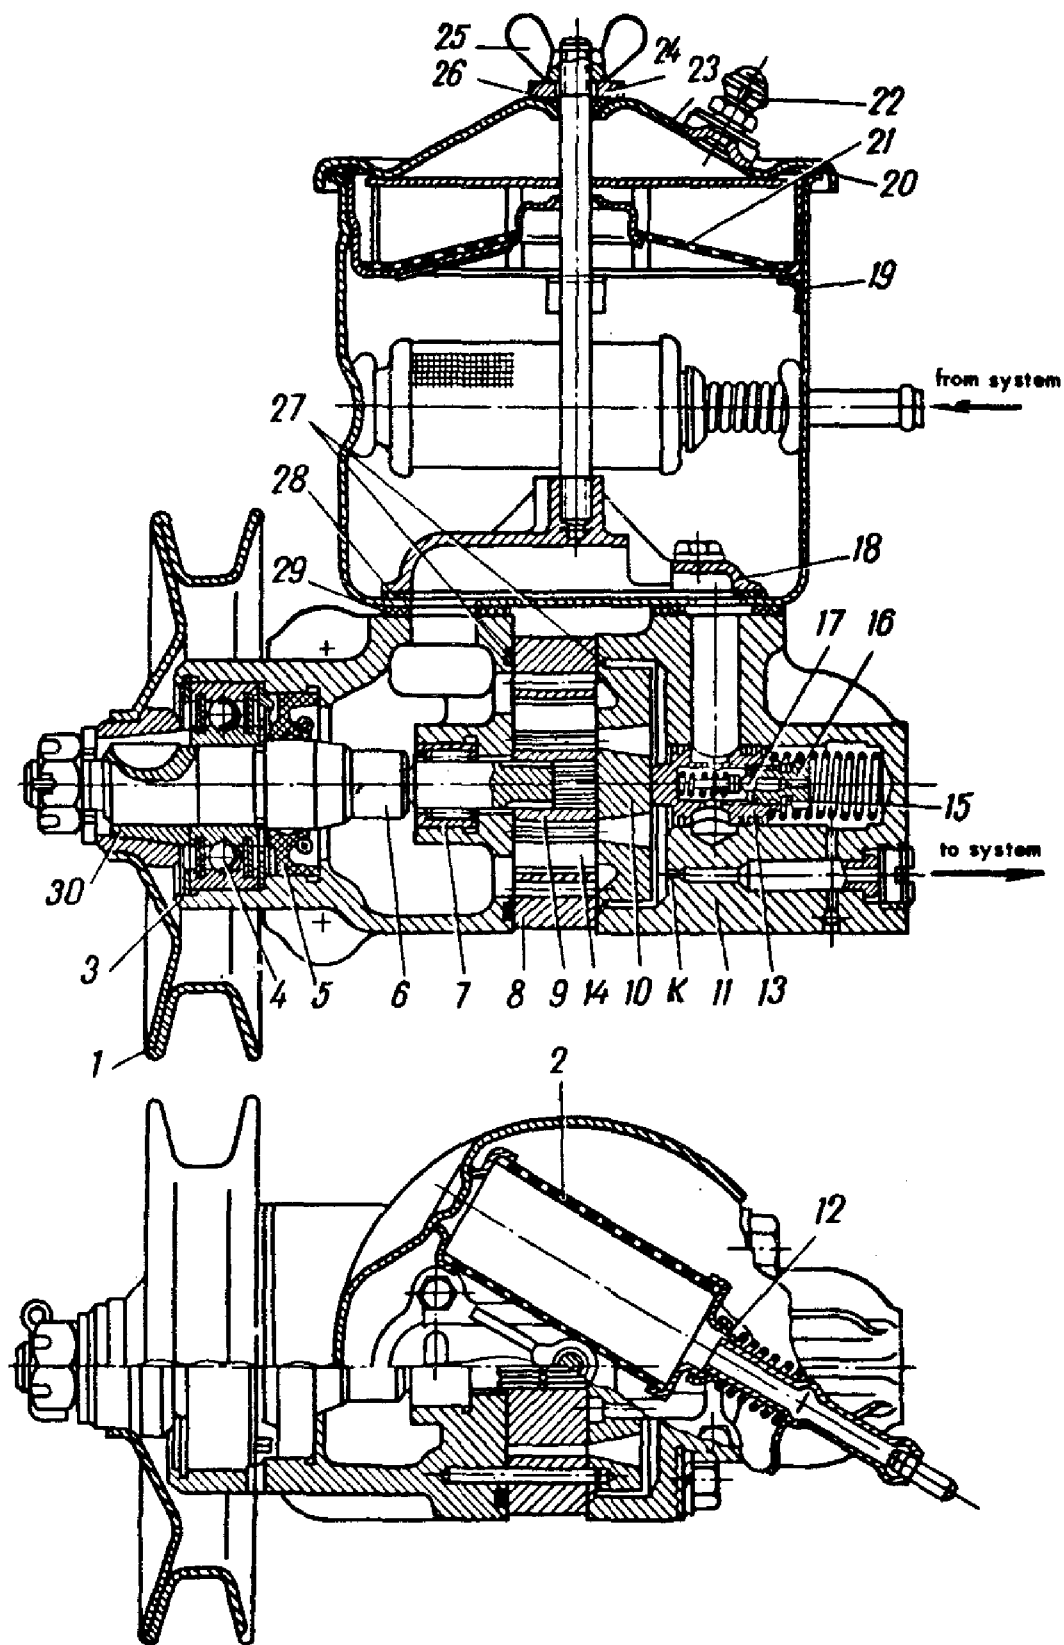

FIG.29. STEERING BOOSTER PUMP
31. Wash filters 2 (Fig.29) and 21 of the steering booster pump with gasoline. Use a solvent, if the filters are badly soiled.